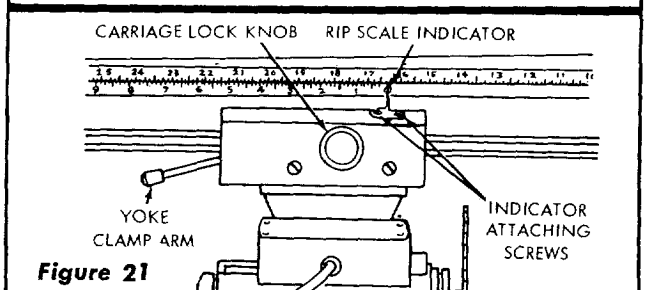

Figure 21
2. Loosen the carriage lock knob and move the motor and carriage assembly along the radial arm until the blade, when spun by hand, just touches the front face of the fence. Tighten the carriage lock knob. (See figure 21.)
3. The rip-scale indicator (on the right-hand side of radial arm) should now be aligned with the "0°" mark on the lower ("In-Rip") scale. If not, loosen the two indicator attaching screws and shift the indicator until it is aligned with the "0°" mark, then tighten the attaching screws. (See figure 21.) When the indicator is set for the "In-Rip" (lower) scale, it will be correct for the "Out-Rip" (upper) scale.